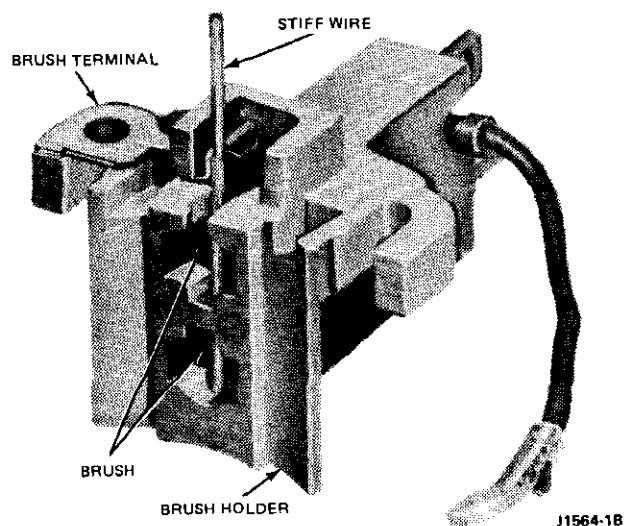

FIG. 7 Brush Holder Assembly
5. Position the brush terminal on the brush holder (Fig. 7). Install the springs and brushes in the brush holder, and insert a piece of stiff wire to hold the brushes in place (Fig. 7).